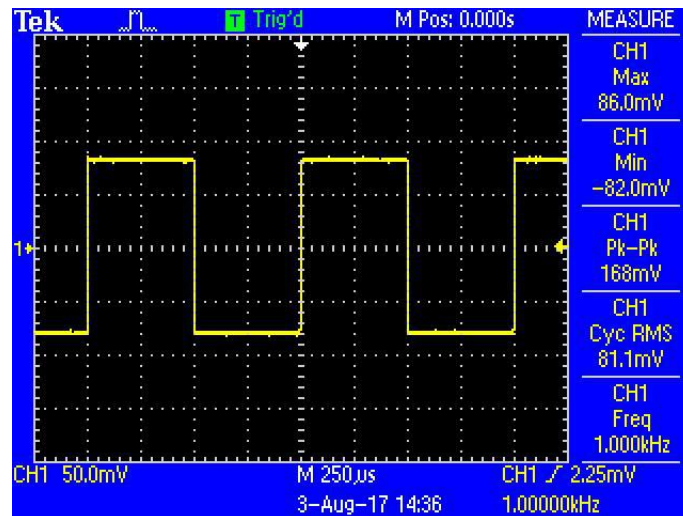

Fig.97 Measured Signal Parameter
3. Turn on the function signal generator and set "Function: Square", "Amplitude: 80mVrms", "Frequency: 1 kHz", as is shown in Fig.97.